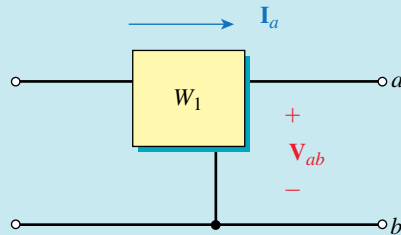

FIGURE 23-31 $P_1 = V_{ab} I_a \cos \theta_1$ where θ_1 is the angle between \mathbf{V}_{ab} and \mathbf{I}_a .
First consider wattmeter 1, Figure 23-31. Note that W_1 is connected to terminals a - b ; thus it has voltage \mathbf{V}_{ab} across it and current \mathbf{I}_a through it. Its reading is therefore $P_1 = V_{ab} I_a \cos \theta_1$, where θ_1 is the angle between \mathbf{V}_{ab} and \mathbf{I}_a . \mathbf{V}_{ab} has an angle of 30° and \mathbf{I}_a has an angle of 53.13° . Thus, $\theta_1 = 53.13^\circ - 30^\circ = 23.13^\circ$ and $P_1 = (208)(8)\cos 23.13^\circ = 1530 \text{ W}$.